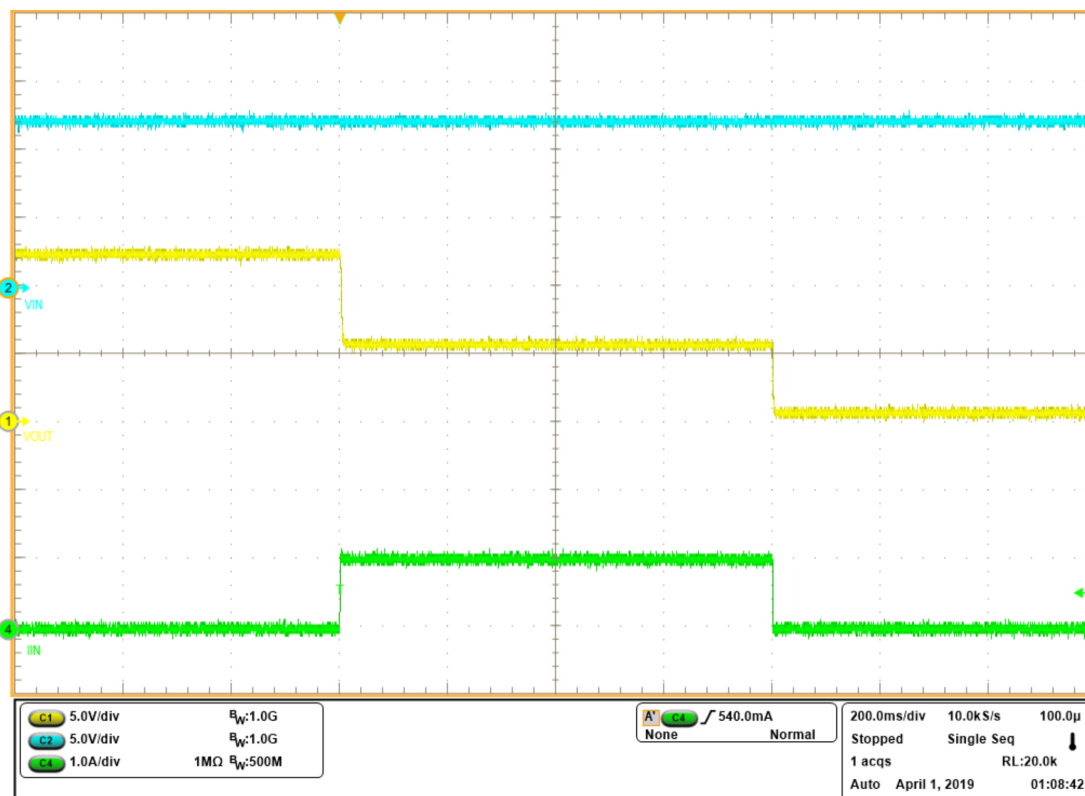

Figure 4. J11 = 3-4, Current Limit (1.0 A) Test with Latch (CH2)
- Set the output load at $5.0\ \Omega \pm 0.5\ \Omega$ on CH2 and then enable the load. Turn on the VIN2 power supply and verify that input/output current is limited as per the setting in Table 9. Verify the device is in latched-off mode and that the FLTb2 RED LED (D5) turns ON as shown in Figure 4. The level of the current pulse should match with the load current limit (based on the respective jumper setting) as shown in Table 9.